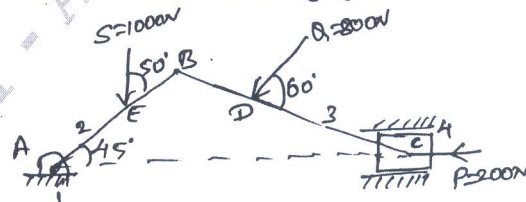

Fig.Q4
- 4 Determine various forces and T_2 for the mechanism shown in Fig.Q4.